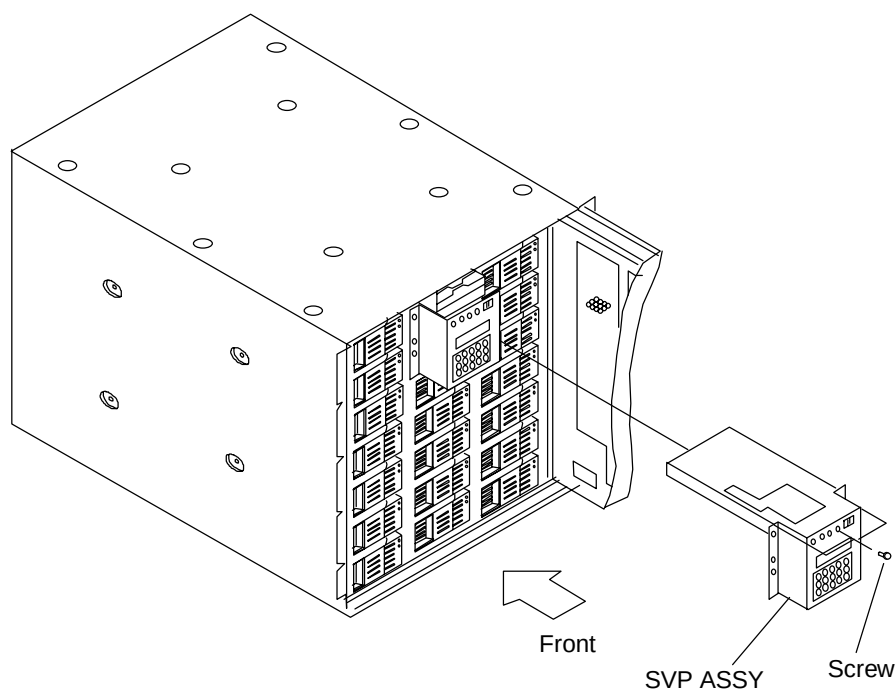

Figure 10.1 Replacing SVP ASSY
10. Replacing SVP ASSY (See Figures 10.1)